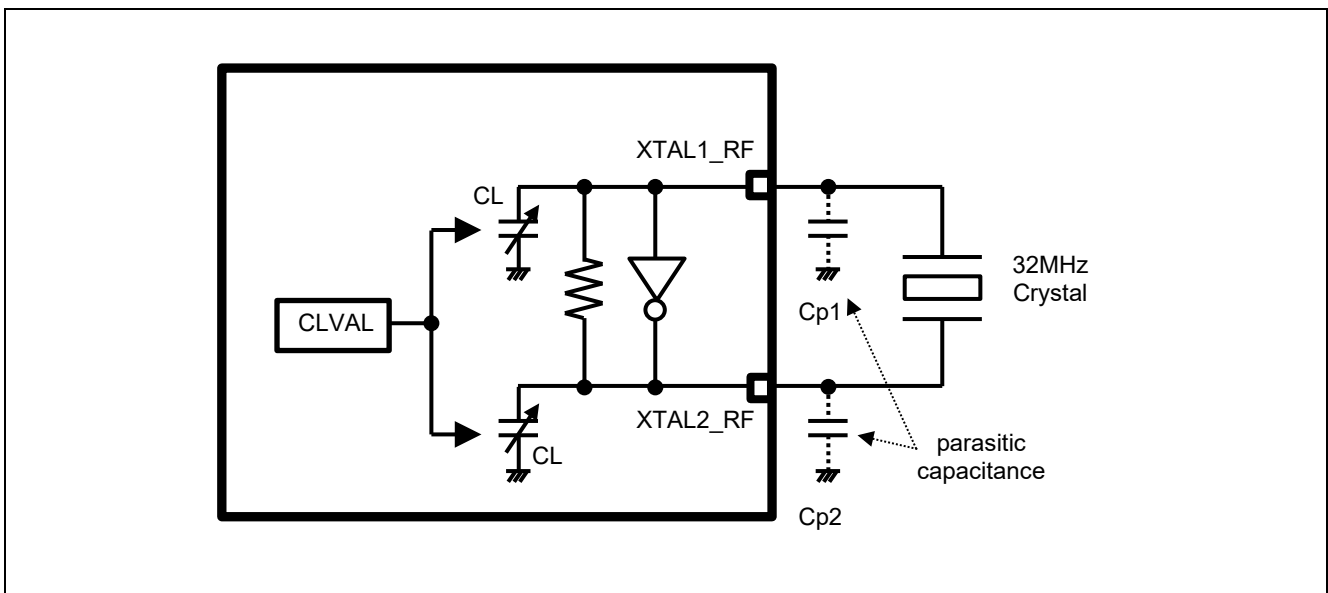

Figure 2-1. Circuit of Bluetooth dedicated clock oscillator.
Figure 2-1 shows circuit of Bluetooth dedicated clock oscillator. RA4W1 has two load capacitors (CL) internally for the tuning Bluetooth dedicated clock frequency. The internal capacitors are connected to terminals XTAL1\_RF and XTAL2\_RF respectively. The capacitance of CL can be adjusted in a range of 2-15 pF typically. The oscillation frequency error can be minimized with the appropriate capacitor setting (CLVAL).